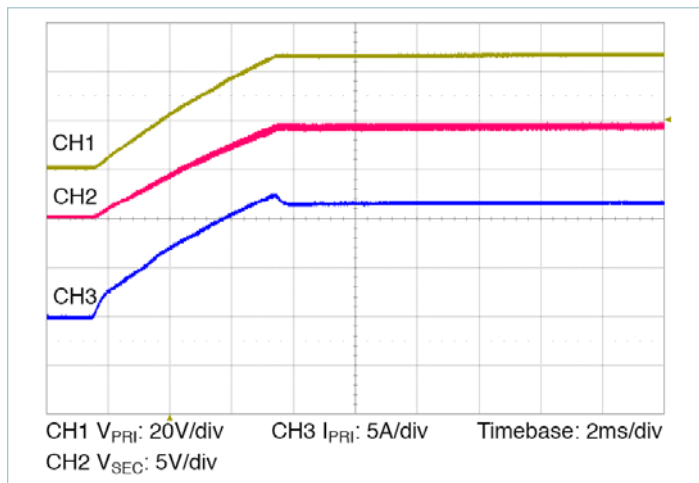

Figure 13 — Start up from application of  $V_{PRI}$ ; VC pre-applied  $C_{SEC} = 1000\mu\text{F}$
- **Normal operation (VC applied prior to the source voltage):** In this case the controller is active prior to the source ramping. When the source voltage is applied, the VTM module load voltage will track the source (See Figure 13). The inrush current is determined by the source voltage rate of rise and load capacitance. If the VC voltage is removed prior to the primary voltage reaching 26V, the VTM may shut down.